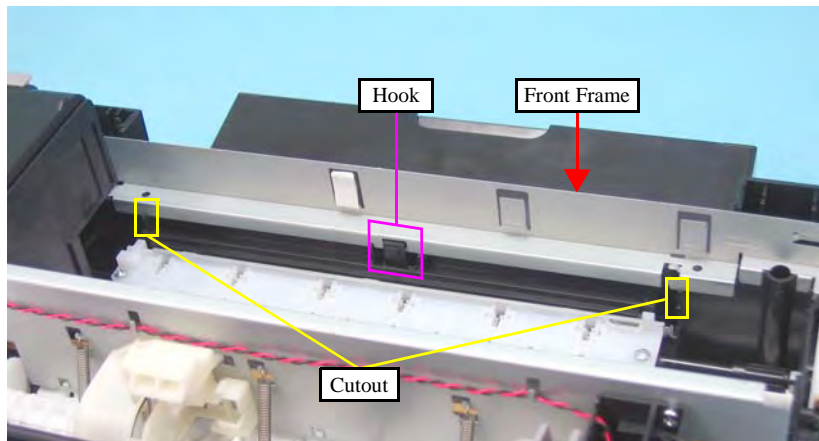

Figure 4-50. Removing the Front Frame/Right Frame (3)
- As shown in Figure 4-50, be sure to secure the Front Frame with the hook (x1) and the cutouts (x2).